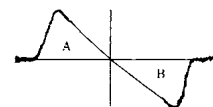

Fig. 10
- Short-circuit the OSC stage as described in Caution 1. Adjust the primary core (lower) of T201 so that the output is like the S curve shown in Fig. 10 with A and B symmetrical with respect to C. Adjust the secondary core (upper) so that the straight line of the S curve can be achieved. At the time of adjustment in Caution 1 and 2, center of the marker will sometimes not correspond to that of the waveform because of the ceramic filters used.